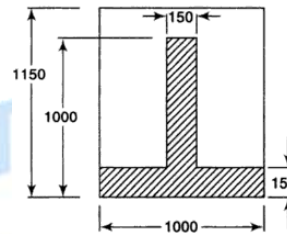

Figure 2
10. A composite beam of rectangular section is made up of a pretensioned inverted T-beam as shown in figure 2 having a slab thickness and width of 150mm and 1000mm respectively. The rib size is